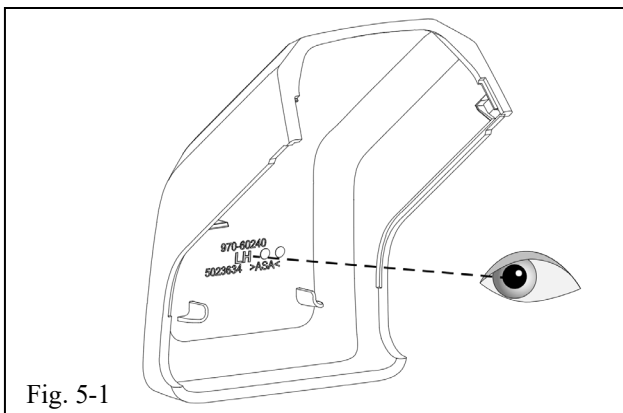

Fig. 5-1
- (a) Identify the proper cover for the left hand (LH) and right hand (RH) sides by referring to the embossed letters on the inside of each cover. (Fig. 5-1).